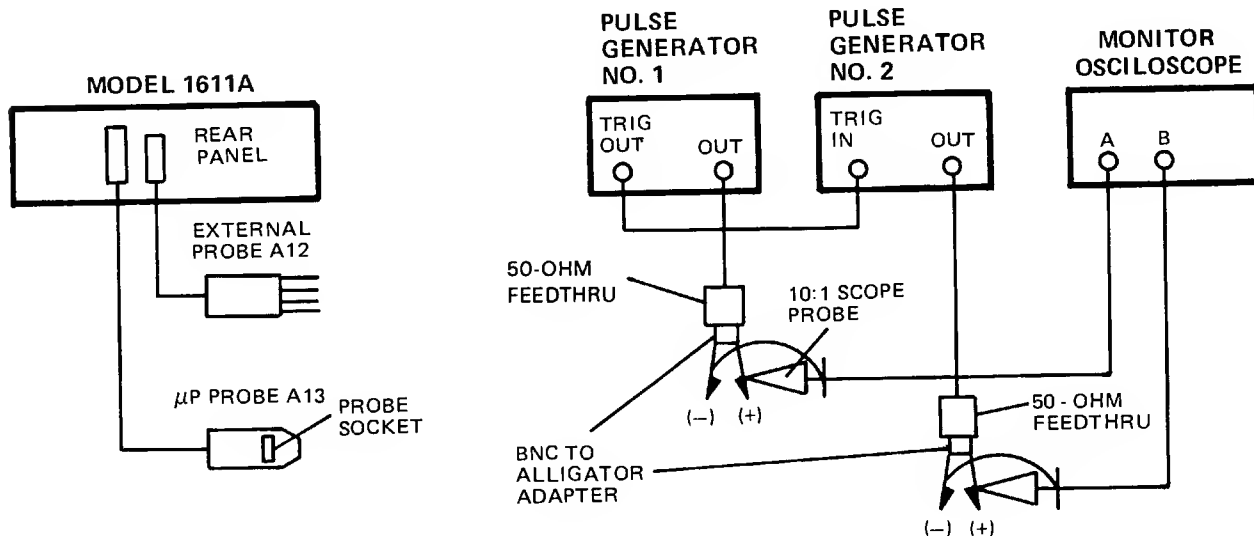

Figure 4-6. Address Lines Test Setup
- Connect test equipment as shown in figure 4-6.